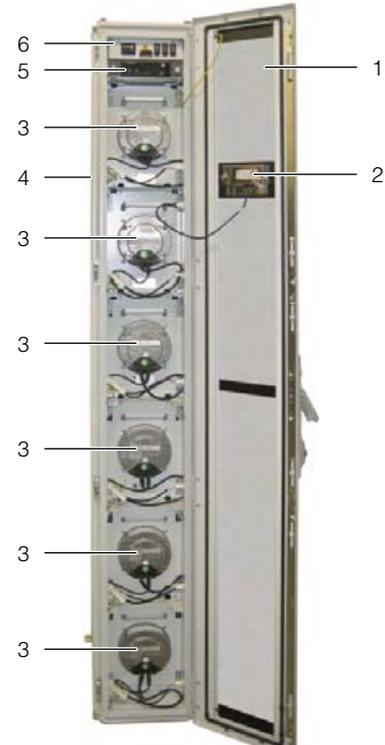

Fig. 11: Liquid Cooling Package front – open front door (60 kW variant)
- 1 Fuse box with master switch (see fig. 11, item 6)
- 13 Control unit CMC III PU (see fig. 11, item 5)